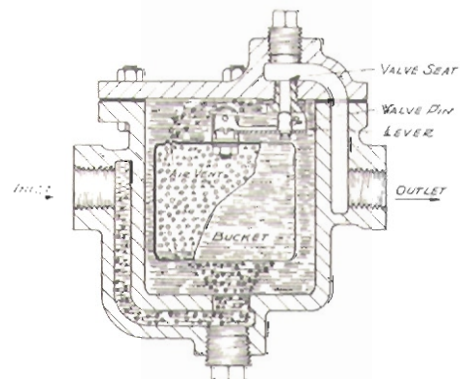
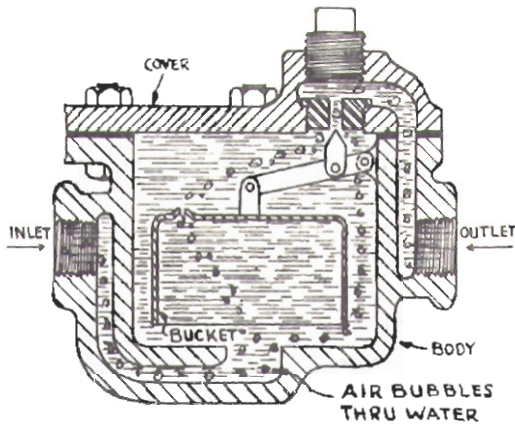

Fig. 2
Fig. 3A
Fig. 2 shows the construction of an Inverted Bucket Trap. As can be seen, the inverted bucket is entirely submerged in the condensate. The bucket is fastened to the end of a lever, and the valve pin is fastened to the same lever, but near the fulcrum. Fig. 3A, 3B, 3C, and 3D show the sequence of operation for an Inverted Bucket Trap.
Figure 3A shows the position of the bucket when steam is turned on. Excess condensate and air flow through the valve seat.
Simple Internal Construction. Conventional Inverted Bucket Traps are simple in construction as can be seen in Fig. 2. The basic internal mechanical parts are composed of the following: (1) Bucket; (2) Bucket Lever; (3) Valve Pin; (4) Valve seat; (5) Seat Yoke; (6) Fulcrum Pin.